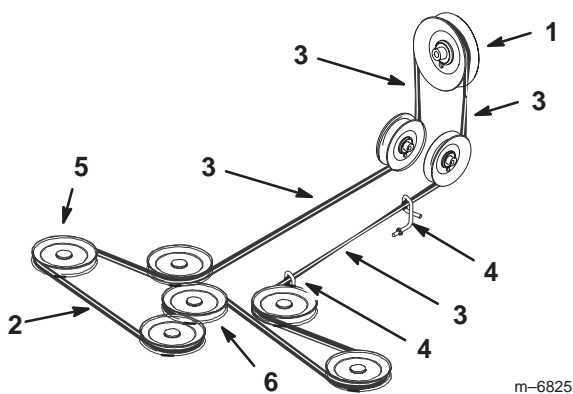

Figure 73
- Install the new mower belt around the mower spindle pulleys, mower idler pulley, into the belt guides, into rear idler arm assembly, and the clutch (Fig. 73).
Important Check the amount of twist in the belt between the pulleys. Make sure it is only what is specified in Figure 73.